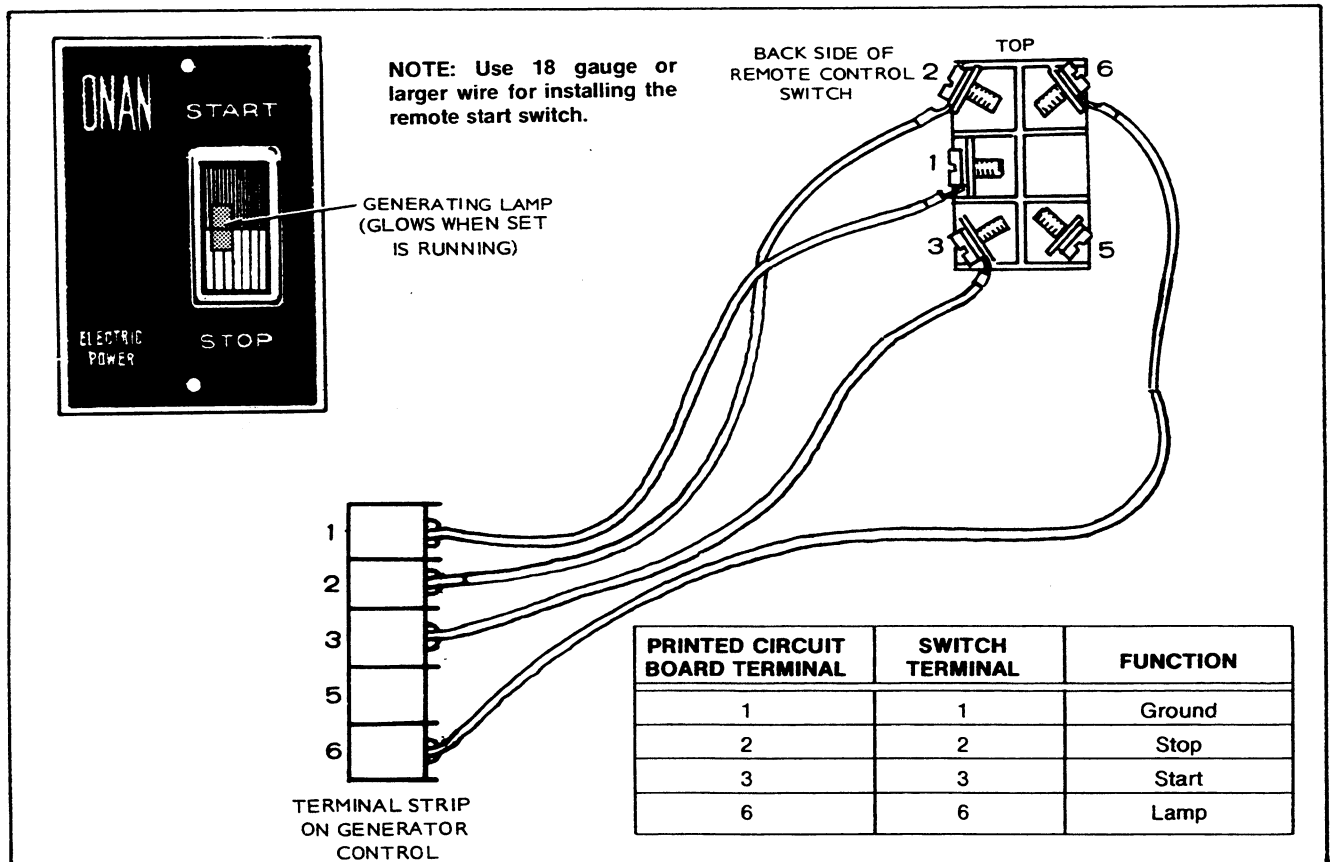

FIGURE 22. CONNECTING REMOTE CONTROL (300-0985)
2. Following national and local electrical codes and using four insulated wires of predetermined length (#18 or larger), connect remote switch to terminals on generator. See Figure 22.